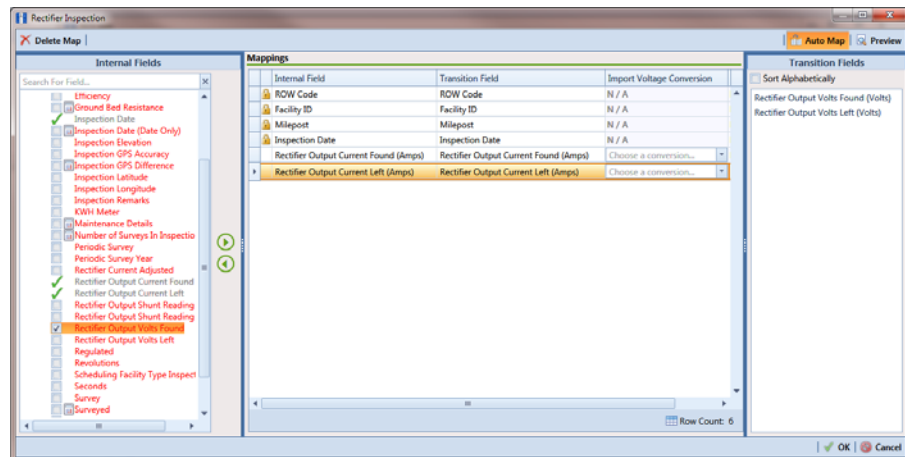

Figure 9-9. Field Mappings
- a Click **Edit** in the *Maps* group box to open a field mapping window (Figure 9-9, page 396).
NOTE: Fields in the *Mappings* panel with a lock icon are required fields for mapping, such as *ROW Code*, *Milepost*, *Facility ID*, and *Inspection Date* shown in the following example (Figure 9-9, page 396).
- b Choose PCS Axis fields for mapping. Click the toggle arrow for a field category in the *Internal Fields* panel to view a list of available fields. For example, *Rectifier Inspection Fields* is selected in the following figure (Figure 9-9, page 396).